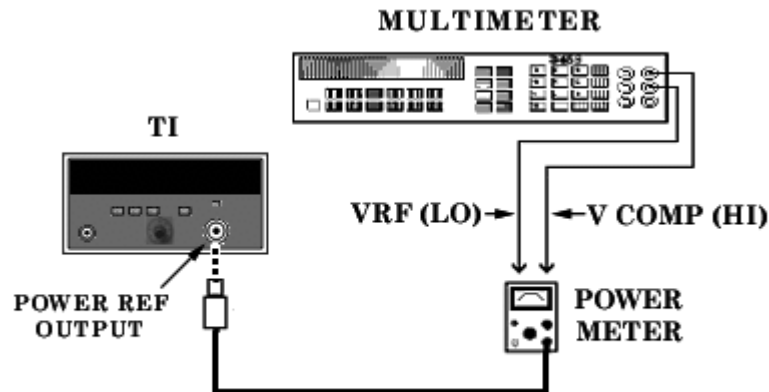

Figure 6. Power reference level - equipment setup.
(1) With power meter off, remove thermistor mount from interconnect cable. Adjust multimeter to measure resistance and connect between **V_{RF}** connector on rear panel of power meter and pin 1 on thermistor mount end of power meter interconnect cable.
(2) Round off multimeter indication two decimal places and record this value as internal bridge resistance **R** of power meter (approximately 200 Ω).
(3) Reconnect thermistor mount to power meter interconnect cable and connect equipment as shown in figure 6.